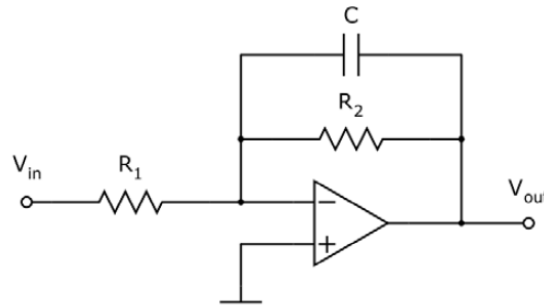

Figure 1: Schematic of an active inverting low-pass filter circuit
In this experiment, you will construct and test an active, inverting low-pass filter circuit. With the circuit complete and properly functioning, you will test the output from the circuit for various input frequencies using the function generator. At each test frequency, you will record the magnitude ratio and time delay of the low-pass filter circuit. In your laboratory notebooks, sketch the setup for the experiment and record the steps you took in the laboratory to complete the exercise. Make sure to include the details, as you will need them for the post laboratory assignment. Figure 1 shows an active, inverting low-pass filter.
- Setup an active inverting low-pass filter circuit as shown in Fig. 1 with a gain of $G=1$ on the breadboard. Use $R_1 = R_2 = 5M\Omega$ and $C = 0.05\mu F$. Measure the resistances and capacitance with the digital multimeter. You can use Fig. 2 as a reference circuit.